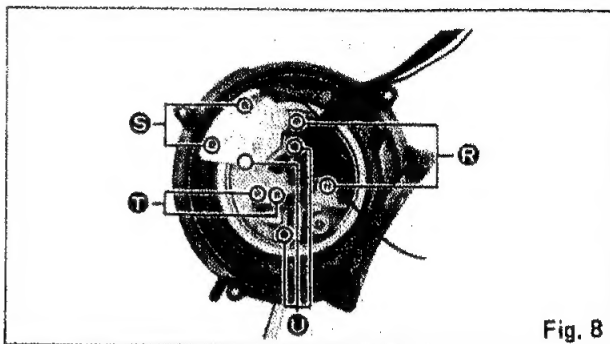

Fig. 8
19. Remove 2 screws **R** of the phono cord p.c.b. as shown in Fig. 8.
20. Remove 2 screws **S** as shown in Fig. 8.
21. Remove 2 screws **T** of the silicon oil dumper as shown in Fig. 8.
22. Remove 3 screws **U** as shown in Fig. 8.